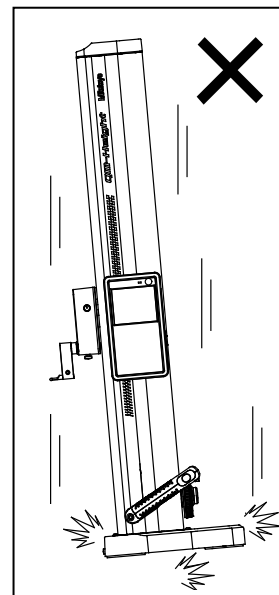

Fig. 4
- Do not apply excessive force to the gage or drop it. Also, do not disassemble the gage except to remove the battery case when replacing the batteries. (Fig. 4)